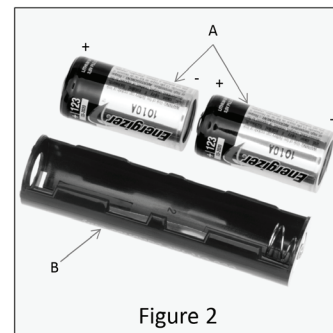
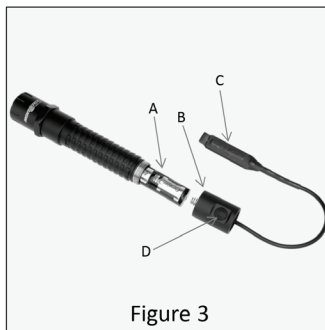

Figure 2
Figure 3
2. Install the two included CR-123 Batteries (Figure 2-A) into the CR-123 Battery Carrier (Figure 2-B). The positive terminals on each battery should be oriented in the direction of the arrow on the CR-123 Battery Carrier and then inserted into the flashlight with the + end terminals pointing in the direction of the flashlight's bezel (Figure 3-A).
3. Install the Remote Pressure Switch (Figure 3-B) and tighten into place.
4. Test the operation of the Remote Pressure Switch (Figure 3-C) and the Side Switch (Figure 3-D). The Remote Pressure Switch provides Momentary On/Off operation of the light only. The Side Switch provides Momentary On/Off operation by pressing slightly on the button, or Constant-on by pressing until the button clicks.